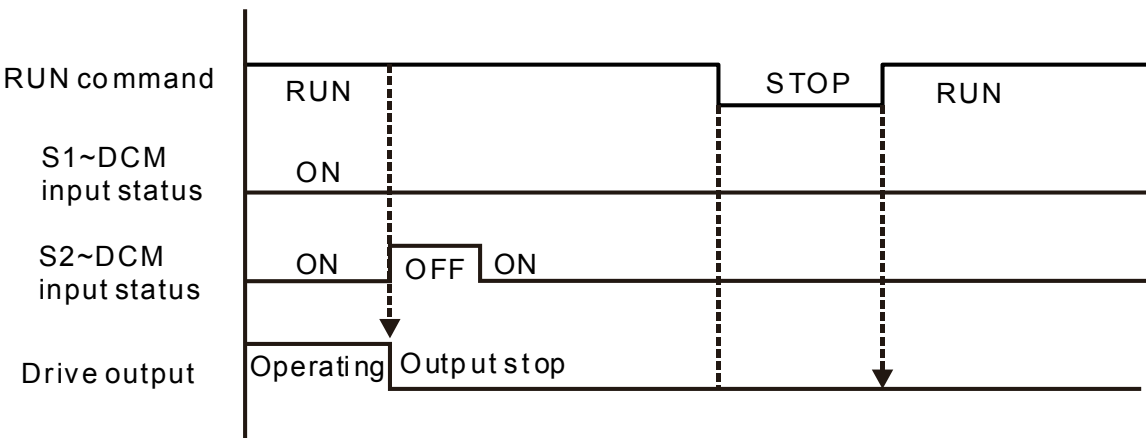

Figure 9
As shown in Figure 9: When S1~DCM is ON during operation (STO function is not required) and S2~DCM is OFF (STO function is required), the drive will stop outputting and keypad will show STL2 error. However, STL2 error cannot be reset even if the S2 status is restored (ON) regardless of the parameter setting. Turn the power on after power off to reset, thereby the drive can restore to normal standby state.